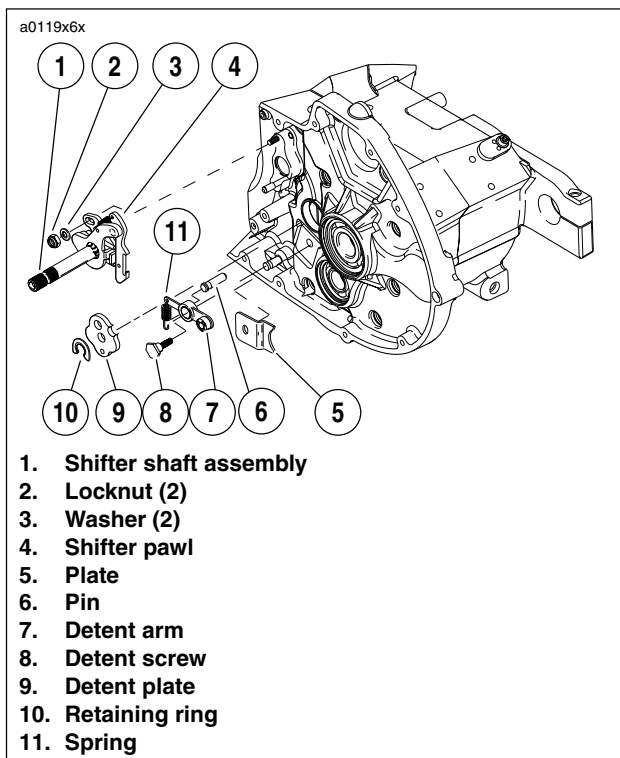

Figure 6-54. Installing Shifter
1. See Figure 6-54. Lift pawl over drum pins and place shifter shaft assembly on studs at transmission case. Loosely install a washer and locknut on each stud.